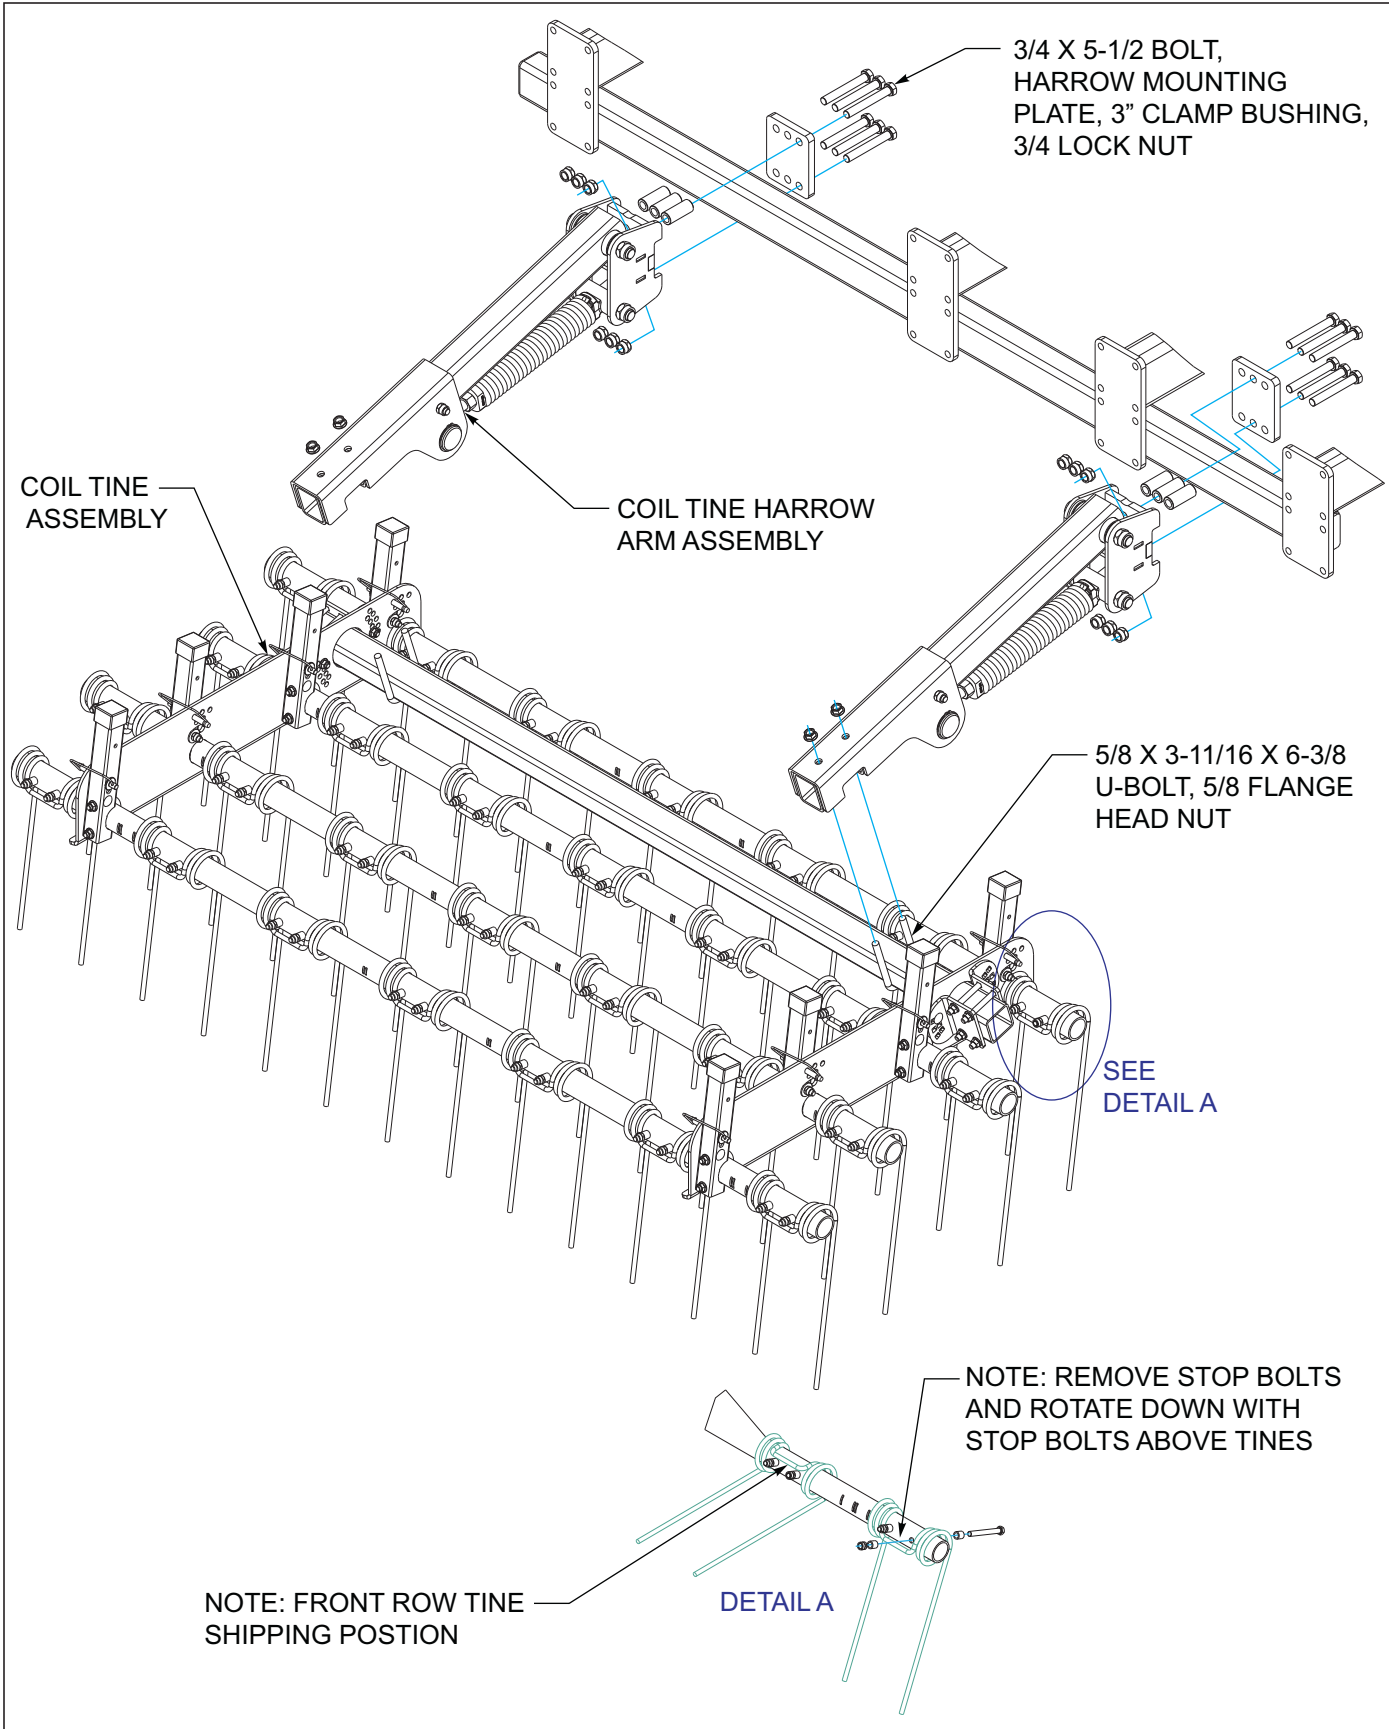

Figure 3-32: 4 Row Coil Tine Harrow Installation
1. Attach coil tine harrow arms to the rear of the field cultivator See Figure 3-32, according to placement dimensions. Clamp bushings are installed on the top mounting bolts.
3. Front row tines are assembled with the tines above the stop bolts to prevent damage when shipping See Figure 3-32 Detail A. Remove front tine bolts and reinstall, with stop bolts above tines.